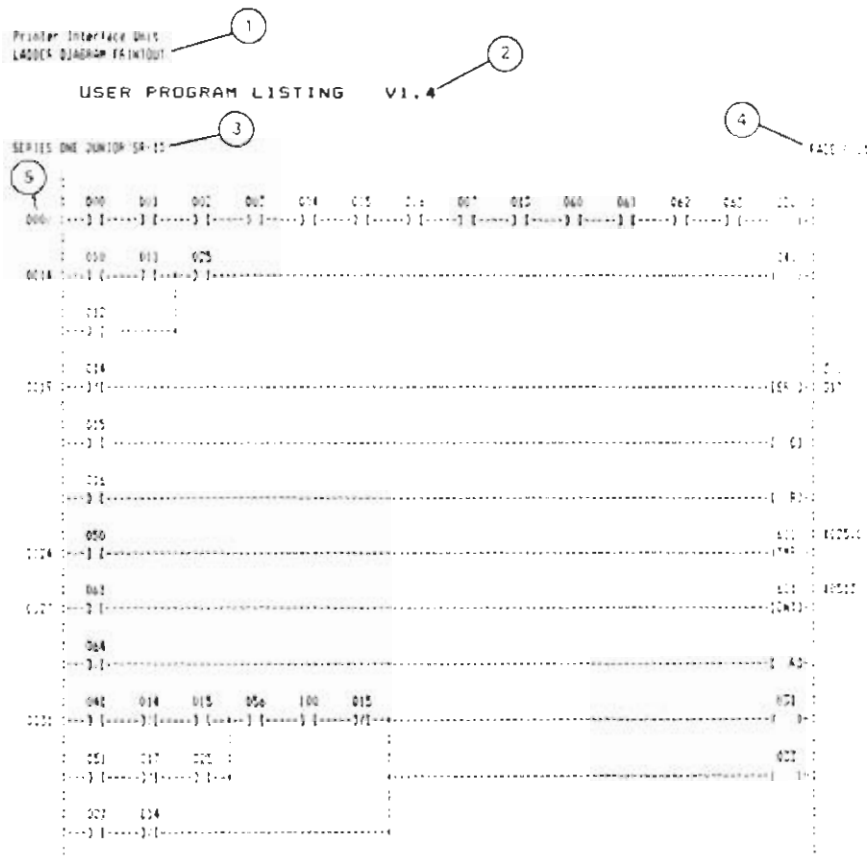
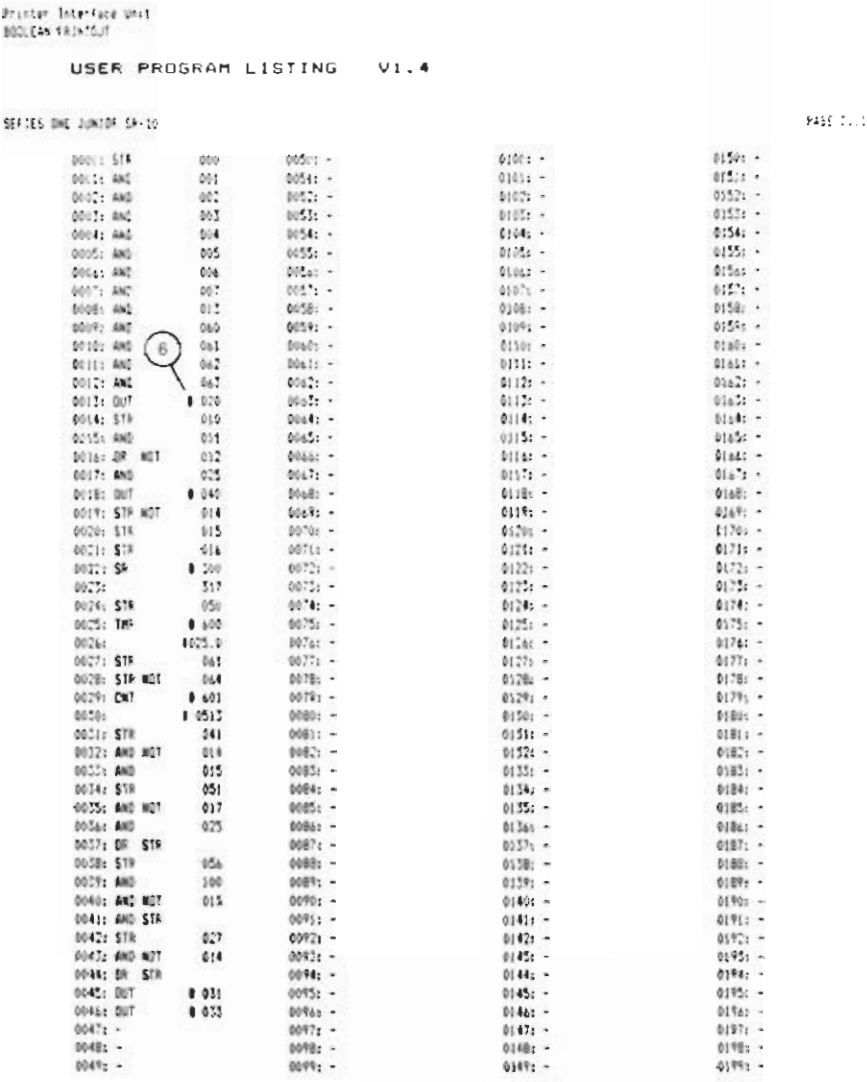

Figure 4.6 SAMPLE LADDER DIAGRAM PRINTOUT
Figure 4.7 SAMPLE BOOLEAN PRINTOUT
Several items appearing on the printouts in Figures 4.6 and 4.7 are explained for clarification. The ladder diagram printout in Figure 4.6 has a circled number (1-5) next to each annotation, which corresponds to the number preceding the explanation of each annotation. The circled number 6 appears before an annotation on the Boolean printout in Figure 4.7. The circled numbers (1-6) are for discussion purposes only and do not normally appear on a printout.
- ① The type of printout on each page appears on this line, either LADDER DIAGRAM PRINTOUT, BOOLEAN PRINTOUT, or CROSS REFERENCE PRINTOUT.
- ② This annotation, V X.X, is the version of the system operating software contained in PROM memory in the Printer Interface Unit.
- ③ The model of PC selected by the user as the program listing source will be on this line. The annotation will be either SERIES ONE JR/SR-10 for a Series One Junior PC or SERIES ONE/SR-20 for a Series One PC.
- ④ The page number of the ladder diagram printout or Boolean printout will appear here as a 4-digit decimal number, starting with PAGE 0001.
- ⑤ Refers to ladder diagram printout only. This 4-digit decimal number is the user program memory address at the start of each rung of logic. The first element in the rung is stored at that address. In the example in Figure 4.6, the memory address of the start of the first rung is 0000. The first element in that rung is a normally open contact referenced as 000 (reference number is printed directly above the contact). The memory address at the start of the second rung is 0014, the first element in this rung is a normally open contact referenced as 010.
- ⑥ Refers to Boolean printout only (Figure 4.7). The # sign immediately preceding a numerical value in the Boolean printout listing, indicates that the value is a reference assigned to an element at the end of a rung.